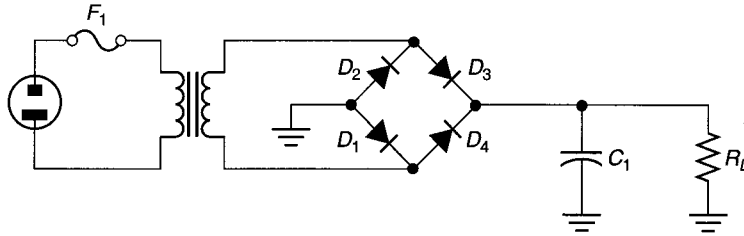

FIGURE 3.60
35. The circuit shown in Figure 3.60 has the following values:  $V_S = 18\text{ V}_{ac}$  (rated),  $C = 470\ \mu\text{F}$ , and  $R_L = 820\ \Omega$ . Determine the values of  $V_r$ ,  $V_{dc}$ , and  $I_L$  for the circuit.
36. The circuit shown in Figure 3.60 has the following values:  $V_S = 24\text{ V}_{ac}$  (rated),  $C = 1200\ \mu\text{F}$ , and  $R_L = 200\ \Omega$ . Determine the values of  $V_r$ ,  $V_{dc}$ , and  $I_L$  for the circuit.